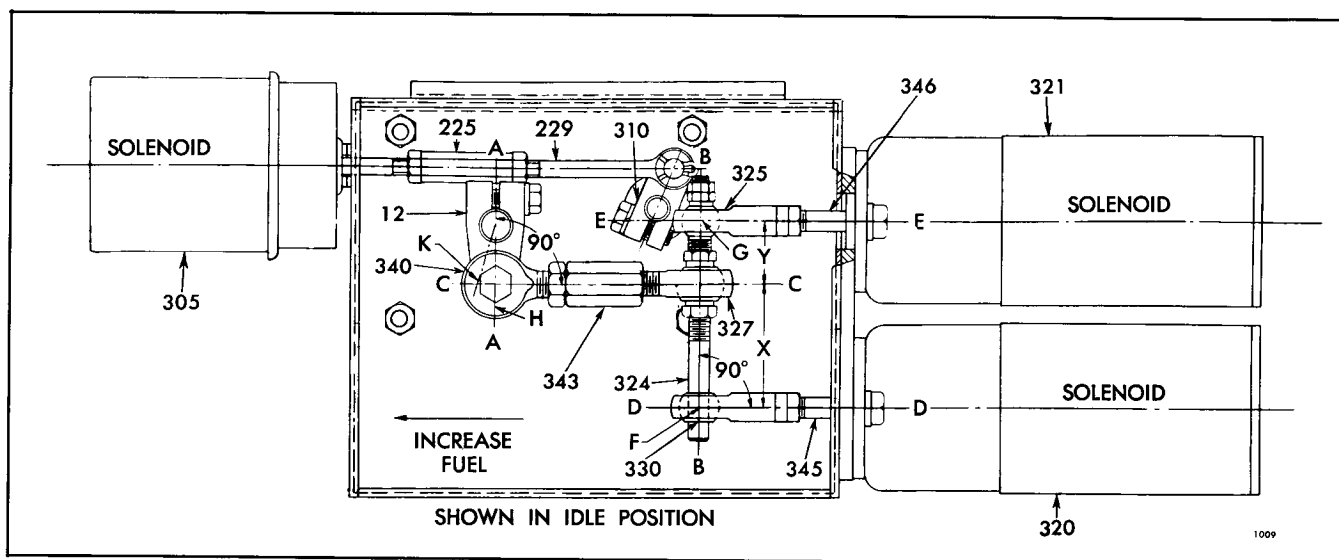

Fig. 7 - Throttle Control Linkage Adjustment Diagram
- a. Note engine idle speed -- if the idle speed is above 750 r.p.m., lengthen turnbuckle (343), Fig. 7. If idle speed is below 750 r.p.m., re-adjust as outlined under "Adjust Idle Speed."